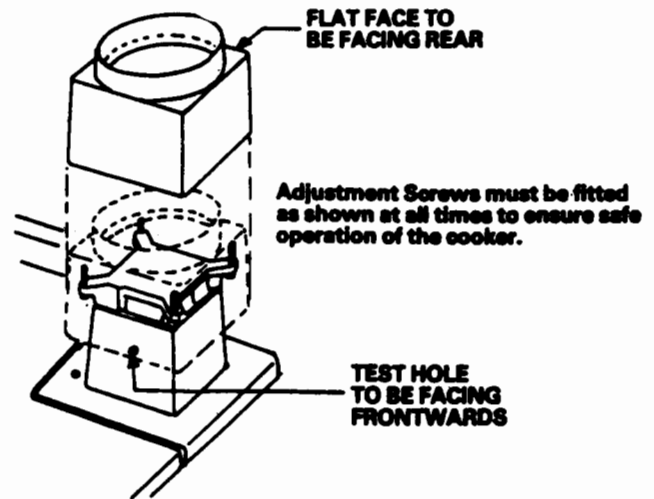

Fig. 4.
See Fig. 4.
2. Assemble and locate the flue draught diverter assembly on the top plate. See Fig. 4.